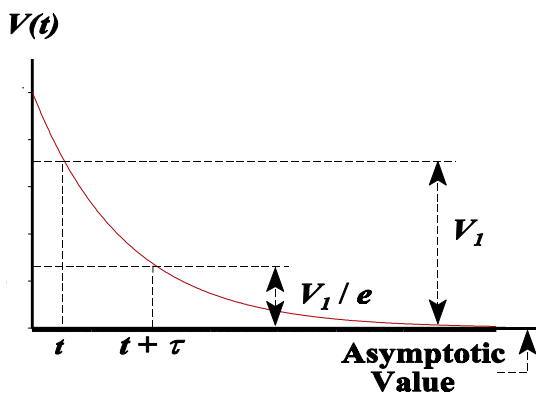
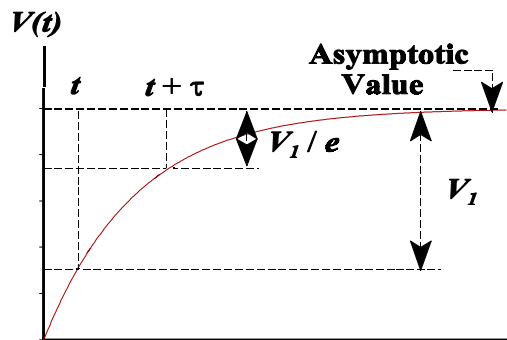

Figure 3.
Figure 4.
is shown in Figure 3. It has a slope (rate of change) which is proportional to the value of the function (V) no matter where you are on the curve. Note that, in equation (2), when $t = \tau$, $V(t)$ falls to $1/e = 0.368$ of its original value (at $t = 0$). τ is called the time constant for the exponential decay. The time to drop to $1/e$ of a previous value is constant, no matter where on the curve you take your "initial" value.
Figure 3 illustrates the exponential decay for a *discharging* capacitor, while Figure 4 illustrates the voltage change for a *charging* capacitor. In the latter case, the voltage increases, but still approaches a constant value; this is still exponential decay, but because the voltage starts from a lower value and then rises to its asymptotic value, an additional constant term is needed in the analogue to Equation (2). The full expression in this case is $V(t) = V_o (1 - e^{-\frac{t}{\tau}})$.